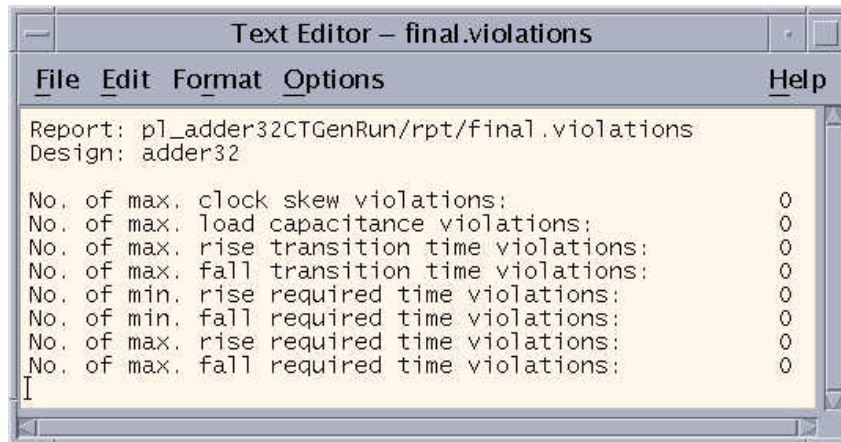

Figure 7-30 Violation report.
5. Click on **Violation** button to check if there is any violation. If there is no violation like figure 7-30, proceed to step 6. Otherwise, manage to solve it.